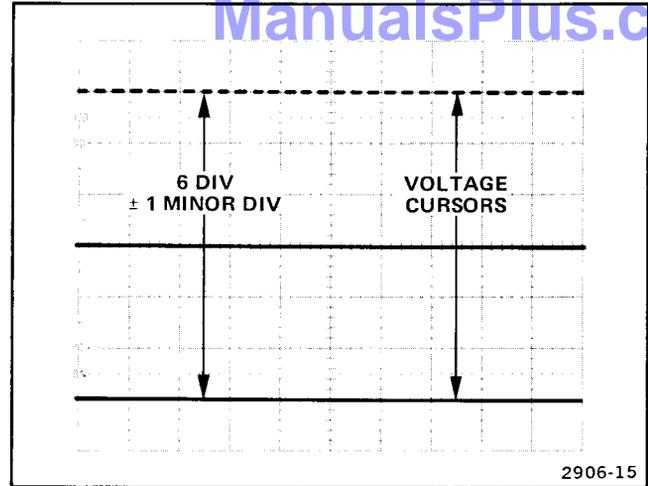

Figure 15. VOLTS cursor accuracy.
6. CHECK—display for 6 divisions  $\pm 0.2$  division (5.8 to 6.2 div) between voltage cursors (see Figure 15).